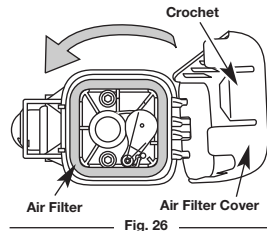

Fig. 26
- Swing the cover to the left until the tab on the air filter cover snaps into place in the slot on the back plate (Fig. 26).